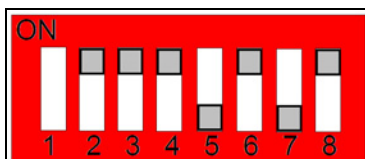

Figure 35: Suggested Default Setting for DIP Switches 2-8 for AUTOSLANT
a) Set DIP switches 2,3,4,6 and 8 to ON. Set DIP switch 5 and 7 to OFF (**Figure 35**).